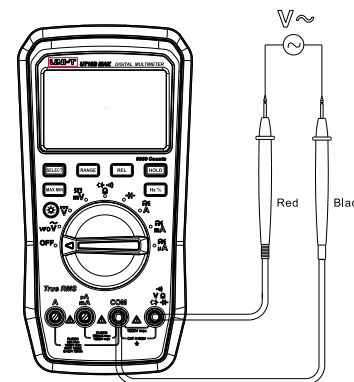

Figure 3
1. AC Voltage Measurement (Figure 3)